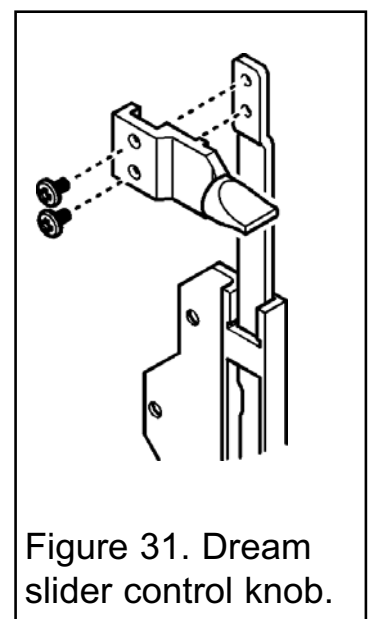

Figure 31. Dream slider control knob.
1. The slider control knob is supplied separately. Fit the slider control knob to the slider using two M4 x 7mm screws supplied (See figure 31).